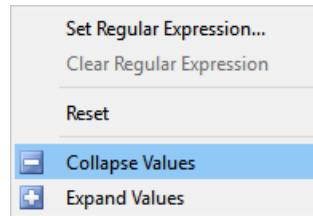

Figure 5.13: Category Filter Right-Click Menu
- Use the right-click menu to **Collapse Values**, shown in Figure 5.13.